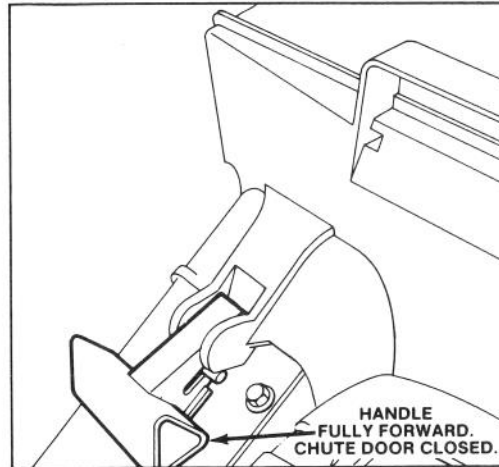

Figure 6
MULCH — In summer, when grass grows slower and is drier, mulch by closing chute door (Fig. 6). For convenience and protection, keep grass bag on mower.
2. Assure chute door handle is fully forward and pin is engaged in catch. (Fig. 6).
5. **EMPTYING BAG** — Stop motor and wait for all parts to stop. Move chute door handle forward to engage the locking pin with catch (Fig. 6). Grasp bag handle and rear of bag and lift bag off mower. Gradually tip bag forward to empty clippings.